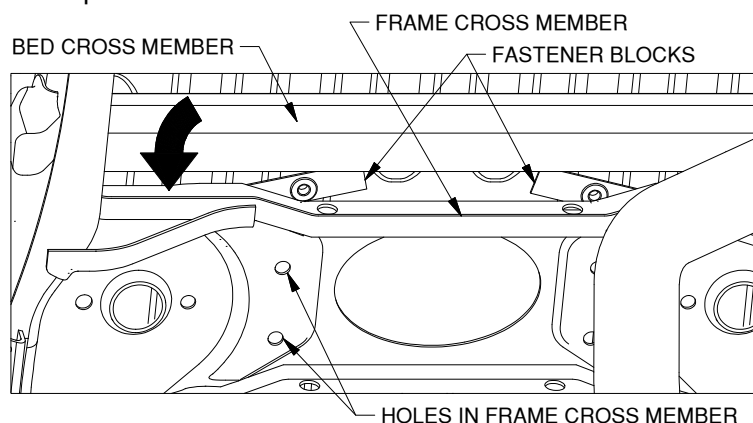

Figure B2: Looking under truck bed towards cab.
2. **Position fastener blocks.** Locate the two fastener blocks. These will be installed between the bed and the top of the frame cross member so that the flanges of the nuts are down against the cross member and centered over the hitch mounting holes. These may be installed from the front or rear of the frame cross member. Figure B2 shows the install from the rear. The space between the bed and the frame cross member is very limited. The nuts must pass over the frame cross member while they are each in a different high rib of the truck bed. There is a slight depression in the frame cross member that allows more room for the nuts once they are on top of the cross member. Once the nuts are on top of the frame cross member, the fastener block can be rotated so that the nuts line up with the holes.